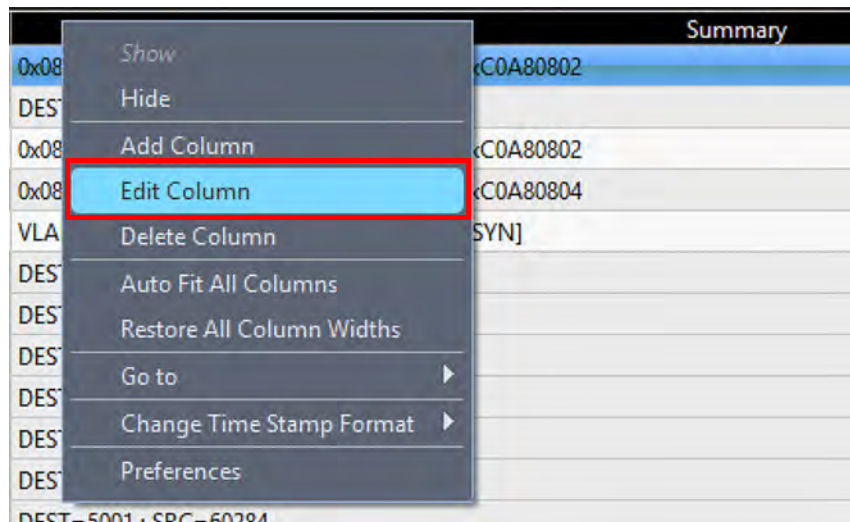

Figure 5.55: Editing a Column
1. Move the cursor to the top of the Summary column you want to edit, then right-click in column title area. The menu shown in Figure 5.55 appears.